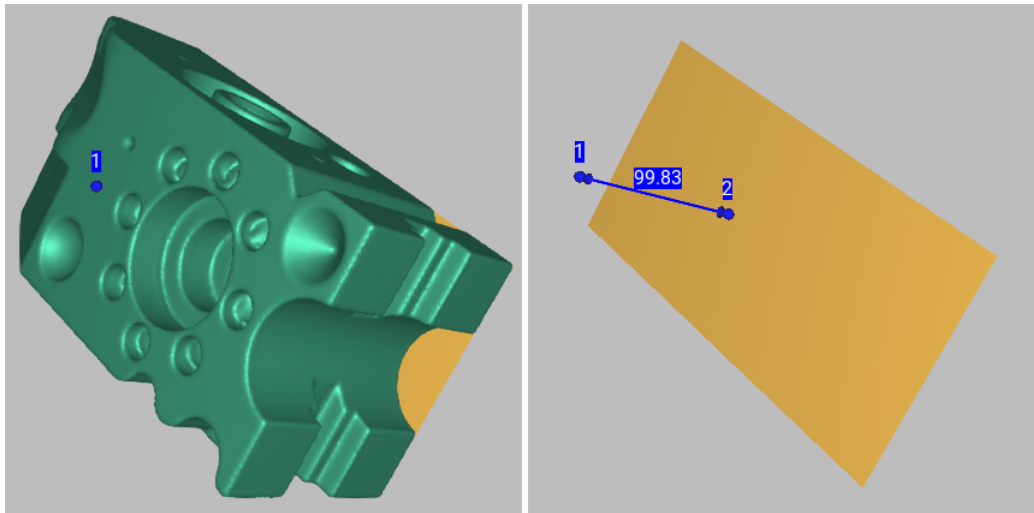

Figure 194: Thickness measurement: selecting a point on the side opposite to the plane (left), clicking the plane to determine distance to it (right).
1. In the *Construct* panel, build a plane (shown in orange in Figure 194) that fits the side surface of the model (find out in Constructing CAD Primitives how to do this).
4. Select any point on the side of the model opposite to the plane (Point 1 in Figure 194, left).
Artec Studio will automatically construct a perpendicular to the plane, determine the point of their intersection (Point 2 in Figure 194, right), and calculate the distance between the two points. This distance gives you the thickness of the model.